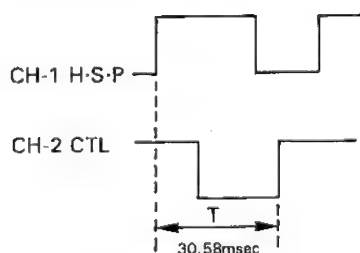

Figure. 2-3
3. Make sure that the waveform on the oscilloscope screen be as shown in Figure 2-3.